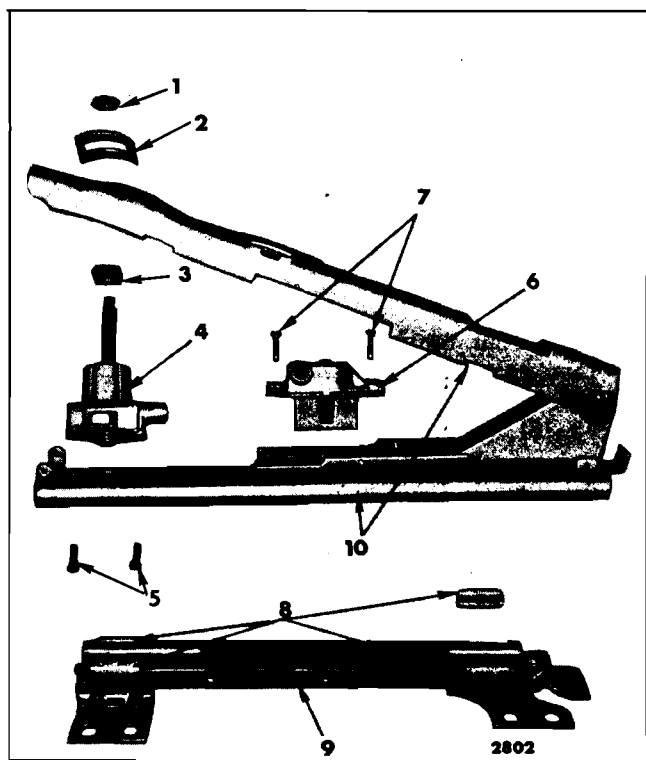

Fig. 15-17—Four-Way Seat Adjuster Components - Buick "B, C & E" Styles
3. Raise upper portion of upper channel. Remove screws securing horizontal actuator assembly to adjuster lower track; then, remove actuator from adjuster assembly (Fig. 15-17).